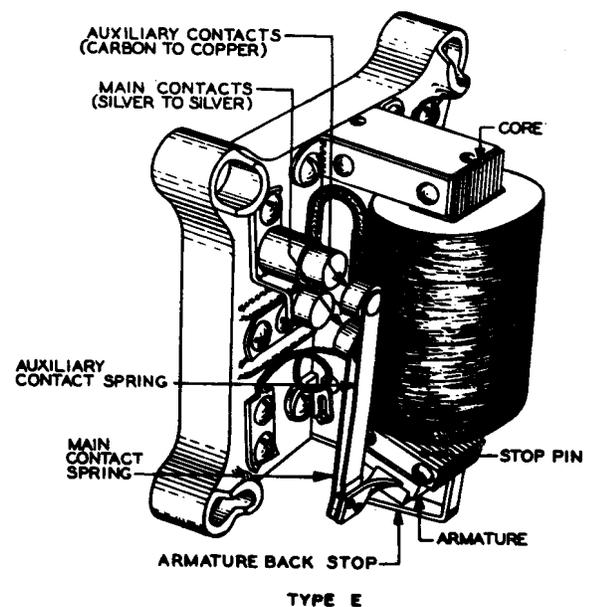

Fig. 1 - KS-3067 Relay
- 1.10 Checks and adjustments shall be made with the relay mounted in a vertical position (see Fig. 1).
- Armature backstops of the type shown in Fig. 1 shall be fastened securely to the brass yoke at the base of the core.
- On relays with auxiliary contacts, such as the E type (see Fig. 1)